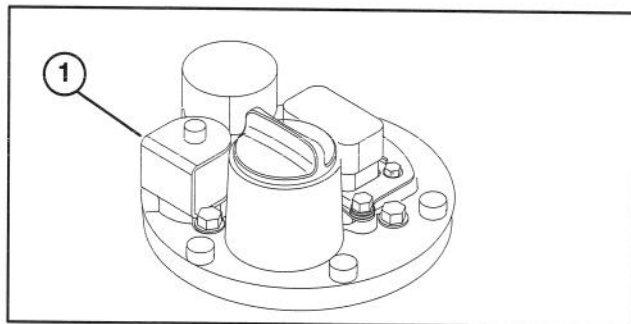

Figure 28
- Valve open circuit (LED blinking): Check / replace TurfDefender electric solenoid valve (Fig. 28) or wires.
- Valve short circuit (LED blinking): Check / replace TurfDefender electric solenoid valve (Fig. 28) or wires.